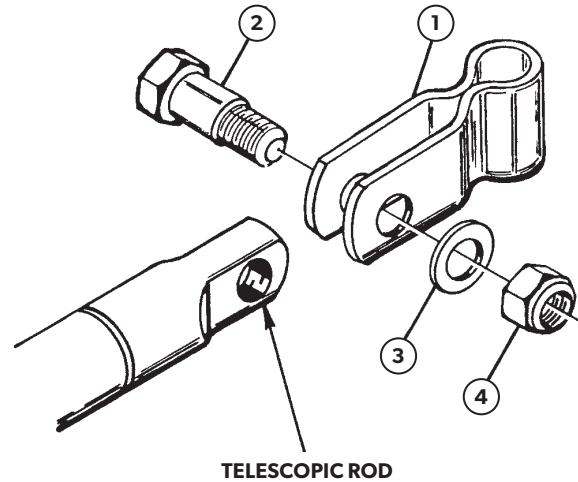

Figure 1.
1. Align hole in telescopic stud of steering cable with holes in clevis (item 1), as shown in figure 1. Insert shoulder bolt (item 2) through aligned holes. Place flat washer (item 3) on threaded end of shoulder bolt, then thread locknut (item 4) onto shoulder bolt. Torque to 150 in. lbs. minimum. Do not exceed 200 in. lbs.